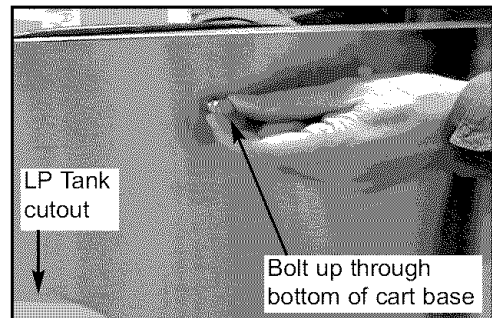

Fig. 3
3. **Door Stops:** Insert Door Stop Bolts downward from bottom side of Cart Base through the hole found in the middle/front of the base. (See Fig 3)